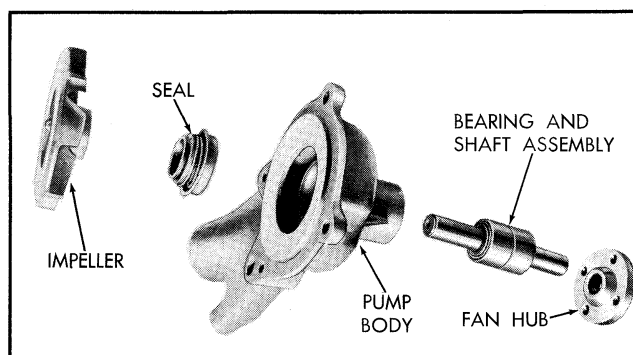

Fig. 6A-22 Water Pump - Exploded View (6 Cyl.)
6. Support pump in an arbor press as shown in Figure 5. Press shaft bearing and impeller assembly out of pump, applying pressure on the outer race of the shaft bearing only (Fig. 6A-20).
7. Support impeller with press plates J-9156 and J-6407. Press shaft with bearing out of impeller using 1/2" O.D. bar (Fig. 6A-21).